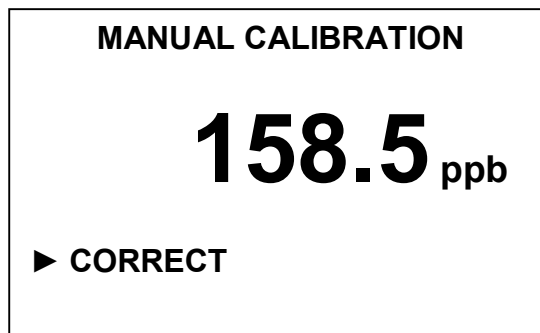

Fig. 2.23
- 2 Move the marker to the "**ppb**" command and press the key . The display shown in Fig. 2.23 shall come up indicating value in ppb.